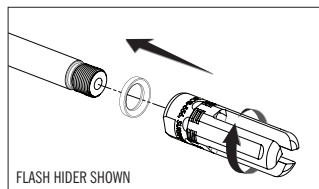

FIGURE 1
3. Install the crush washer onto the muzzle of the host weapon with the large-tapered surface facing the muzzle device (Fig. 1).